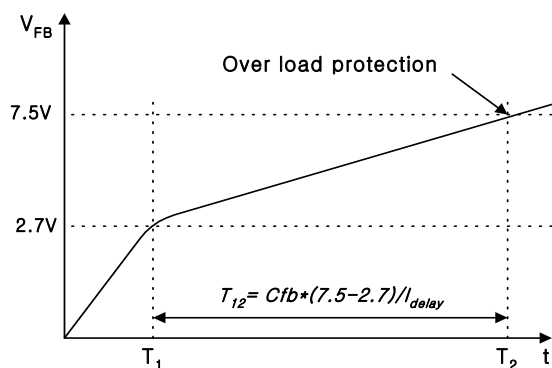

Figure 6. Over load protection
**3.2 Over Load Protection (OLP) :** When the load current exceeds a pre-set level for longer than pre-determined time, protection circuit should be activated in order to protect the SMPS. Because of the pulse-by-pulse current limit capability, the maximum peak current through the SMPS is limited, and therefore the maximum input power is restricted with a given input voltage. If the output consumes beyond this maximum power, the output voltage together with primary side regulation voltage decrease below the set voltage. This reduces the current through primary side regulation transistor, which increases feedback voltage ( $V_{fb}$ ). If  $V_{fb}$  exceeds 2.7V, D1 is blocked and the 2uA current source starts to charge  $C_{fb}$  slowly compared to when the 0.9mA current source charges  $C_{fb}$ . In this condition,  $V_{fb}$  continues increasing until it reaches 7.5V, and the switching operation is terminated at that time as shown in figure 6. The delay time for shutdown is the time required to charge  $C_{fb}$  from 2.7V to 7.5V with 2uA.